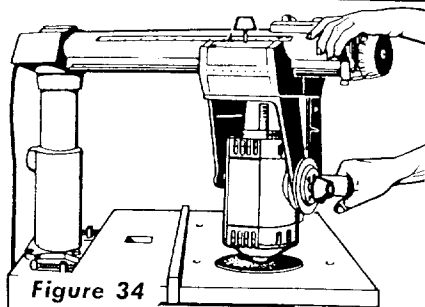

Figure 34
3. When sanding the table top or routing with the work stationary, the arm lock pin can be prevented from automatically indexing at  $0^\circ$  and  $45^\circ$  by rotating the arm locked handle about 6 turns counterclockwise from the locked position. (See figure 34.)